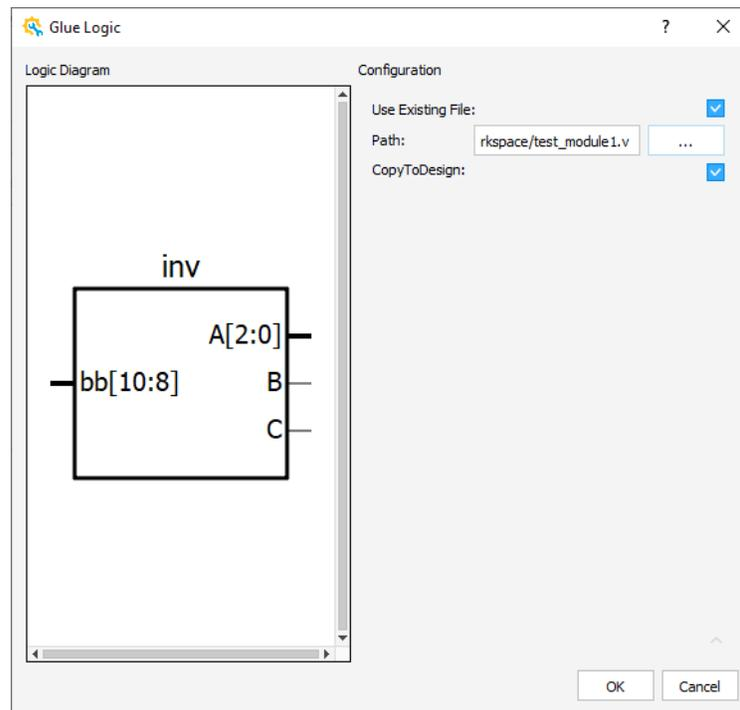

Figure 2.27. Existing Rtl Module Configuration
- c. Or, you can use an existing rtl module by checking the **Use Existing File** checkbox. After checking the **Use Existing File** checkbox (Figure 2.27), browse to find the existing RTL module file path from the **Path** field. And, check the **CopyToDesign** checkbox, if you want to copy the rtl module to the design.